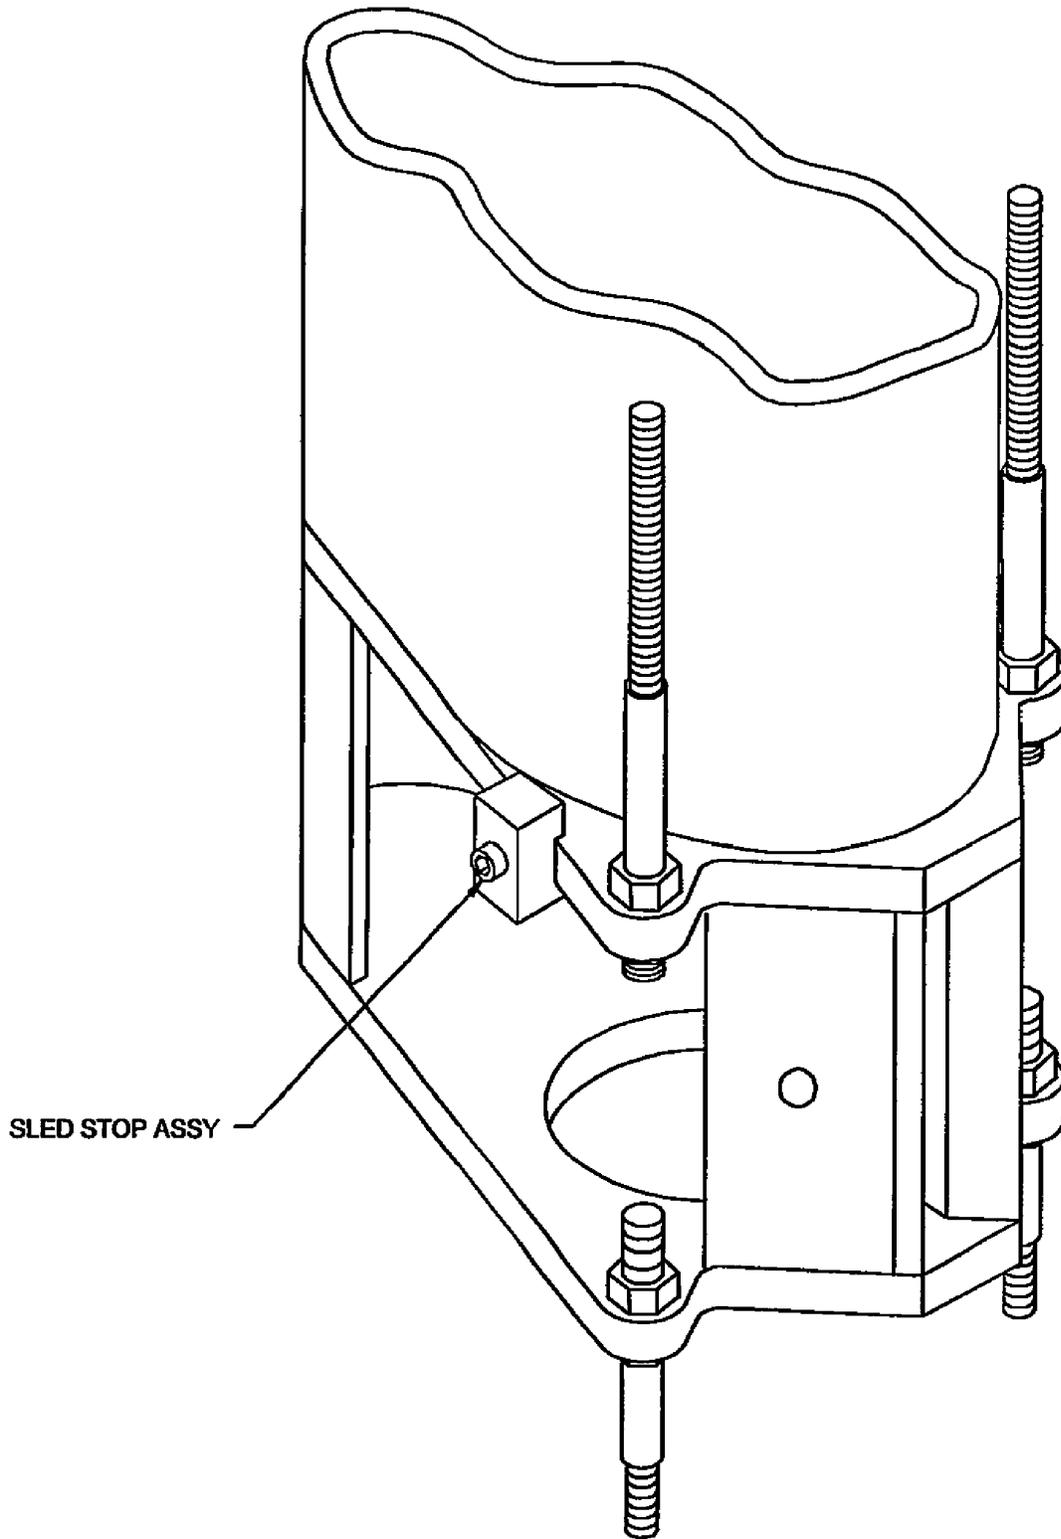

Figure 3-7 Installation of Sled Stop Assembly
- d. Attach one sled stop assembly on each side of the antenna lower bearing using captive 1/2-inch socket head cap screws. See Figure 3-7. Torque the socket head cap screws to a value of 25 ft-lbs.